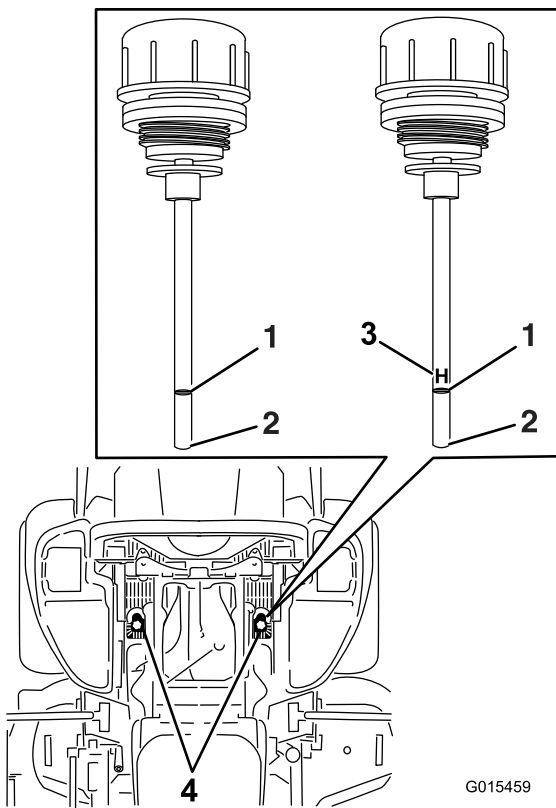

Figure 83
6. Clean the area around the dipsticks of the hydraulic system reservoirs (Figure 83).
7. Remove 1 dipstick from the hydraulic reservoir (Figure 83).
9. Remove the dipstick and look at the end (Figure 83).